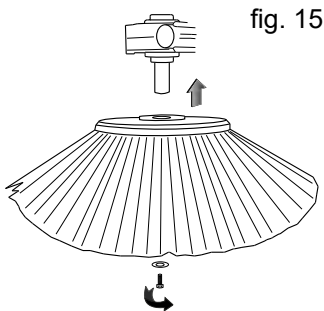

fig. 15
- tighten the brush locking screw again (fig. 15).